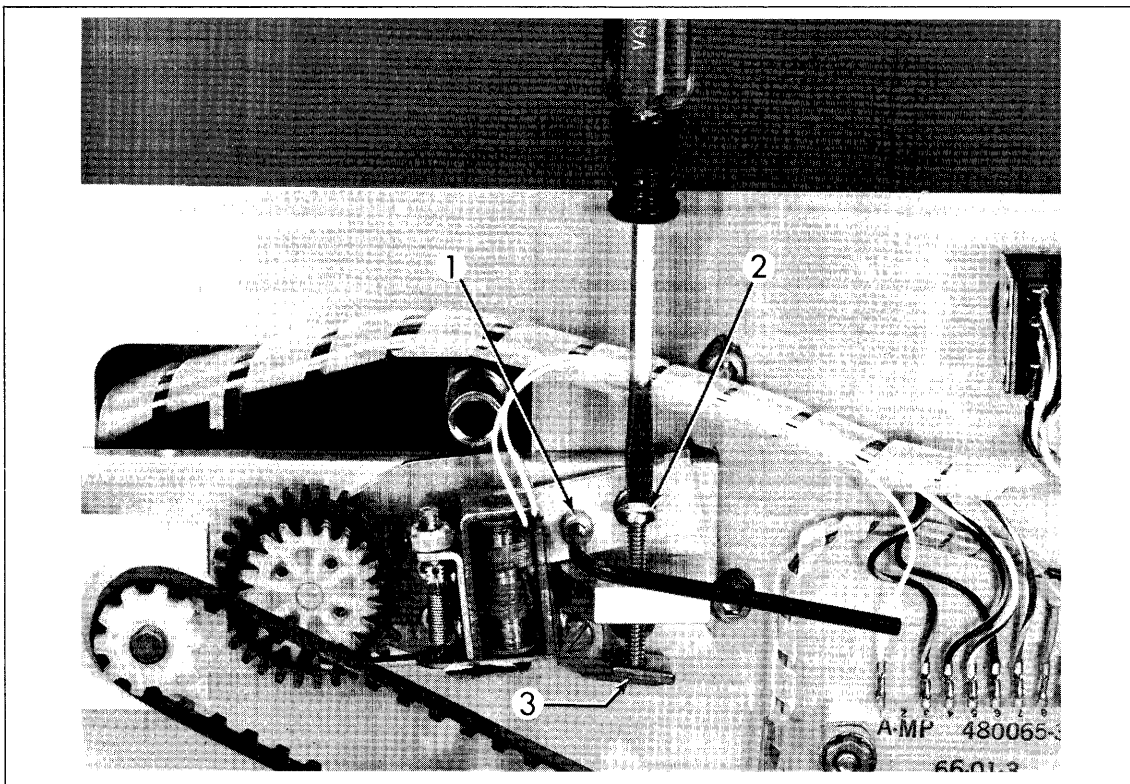

Figure 20
2. If the measurement is outside of the limits specified, loosen the clamping screw (1, Figure 20) on the capstan adjusting plate and turn the adjusting screw (2). Turn the screw clockwise to lengthen hole spacing; counter-clockwise to shorten it. See that the adjust lever (3) is hard against the adjusting screw. Tighten the clamping screw.